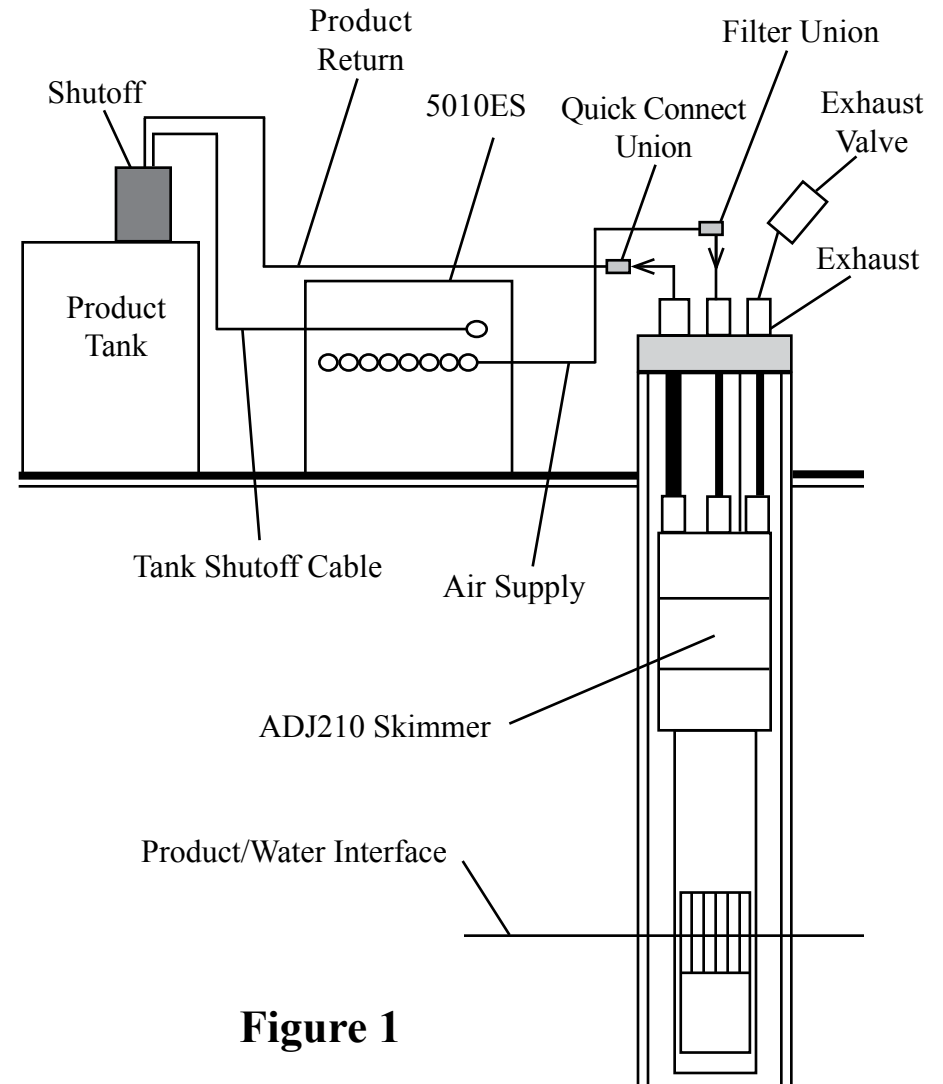
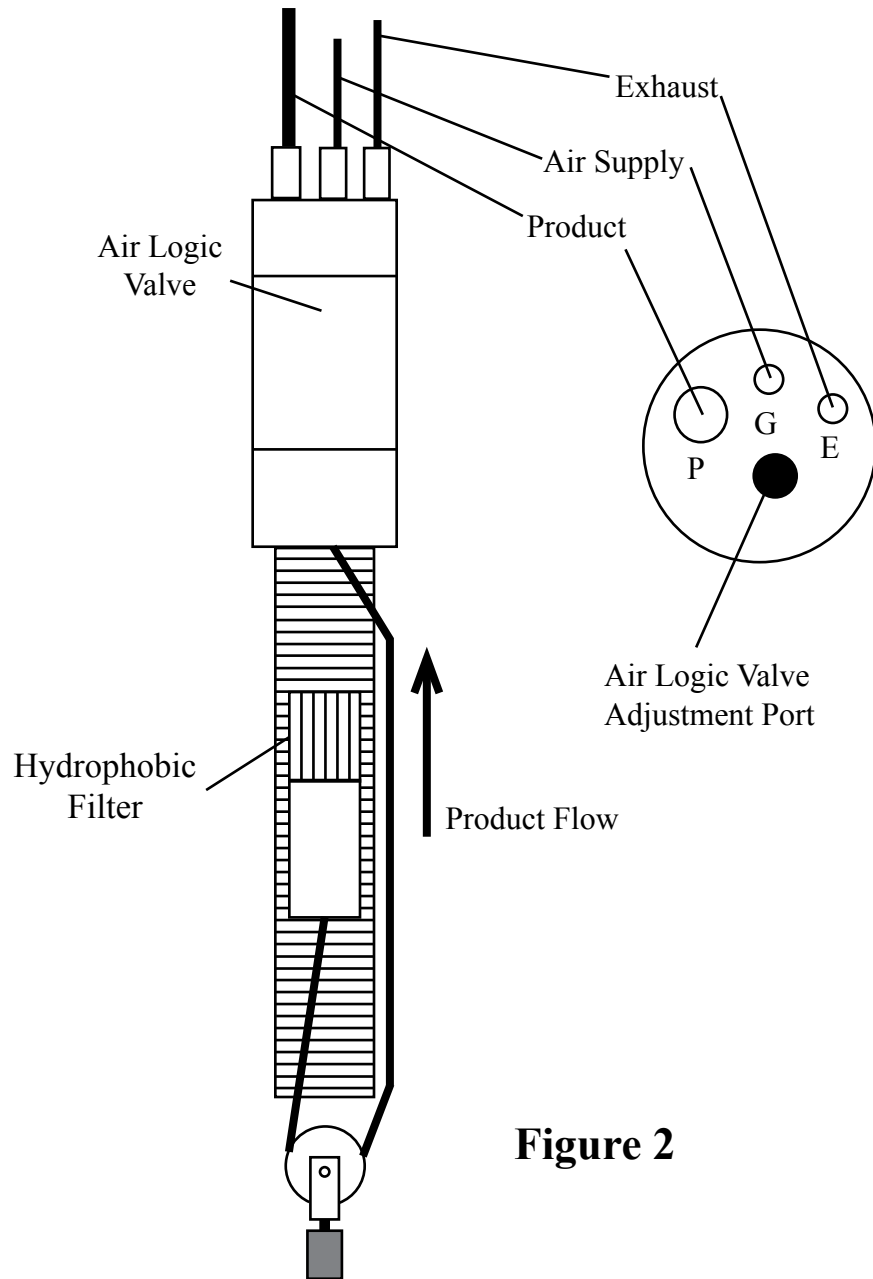

Figure 1
Figure 2
The system (Figure 1) relates to floating hydrocarbon recovery in wells two inches in diameter and larger. This system includes: an intrinsically safe ADJ210 pneumatic Smart Skimmer (Figure 2) which removes only the product to a sheen down to 200 feet deep; and a programmable Control Station Model 5010ES which operates up to 8 skimmers intermittently, records run time, and has a high level tank shutoff.
STEP 1. Place programmable Control Station Model 5010ES (Figure 1) near the air source, power source, and holding tank if possible. **CAUTION:** The standard electronic controller is NOT intrinsically safe. If this controller must operate in a CLASS I area, the XITECH Model 2550ES CLASS I controller will be required.
STEP 2. Install holding tank shutoff assembly into holding tank (a 2" standard pipe inlet will be required in the holding tank). The level of product in the holding tank can be set by raising or lowering the liquid level float switch rod. Plug the high level shutoff switch cable connector into the left end of the controller (Figure 1).
STEP 3. Attach power line from the AC power source to the right end of the control station (Figure 1). Turn on the controller power switch. If the red "Product Tank Full" light stays on, you have a problem with tank shutoff wiring. Turn off the power switch and re-check the tank shutoff wiring. If the light continues to stay on, call the factory.
STEP 7. Position the skimmer and well cap on the ground near the well. Cut a length of 1/4" OD air supply tubing to cover the distance from the top of the well down to water/product interface, plus 5 feet. **NOTE:** If the skimmer is over 70 feet deep, use 3/8" OD air supply tubing in stead of 1/4" OD tubing. Slide enough tubing through the well cap and attach the end of the tubing to the top of the skimmer tube fitting labeled "G" (Figure 2). If the product thickness is greater than 1 foot, position the center of the skimmer screen 1 foot below top of product. If the product thickness is less than 1 foot, position the center of the skimmer screen at the water/product interface.
STEP 8. Cut a length of 5/16" OD product tubing same length as the air supply line. Install 5/16" OD product tubing through the well cap tube fitting labeled "P" (Figure 2). Slide enough tubing through the well cap and attach the end of the tubing to the top of the skimmer tube fitting labeled "P". **CAUTION:** Do not kink the tubing.